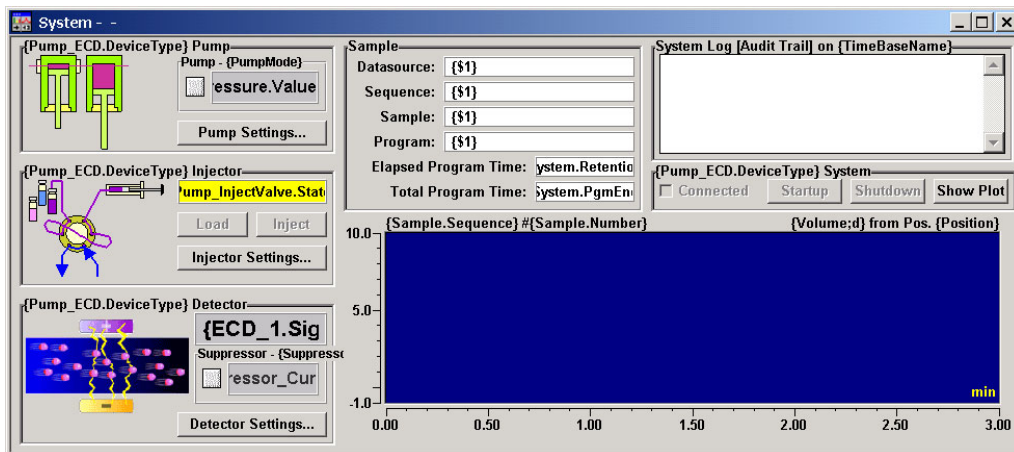

Figure 3-5. ICS-1000 System Control Panel (Unconnected)
5. The Control Panel opens, unconnected (see Figure 3-5). To connect to the timebase, open the **Control** menu and click the name of the ICS-1000 timebase from the list at the bottom of the menu.